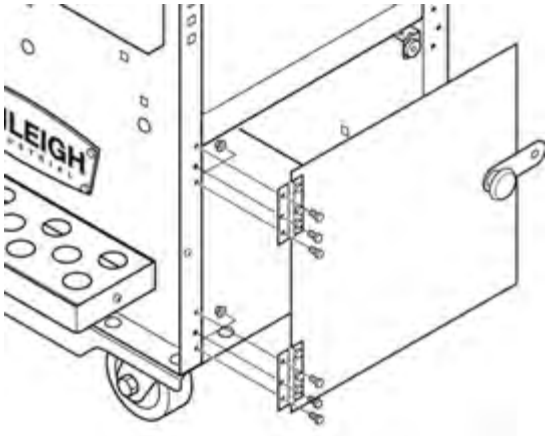

Figure 4-18
21. Align the Door Hinge mounting holes with the mounting holes in the side panel flange. Using six M4 x 12 Cross Recessed Head Screws (item #27) and M4 Hex Flange Nuts (item #30), attach Door to the cart side panel as shown in Figure 4-18.